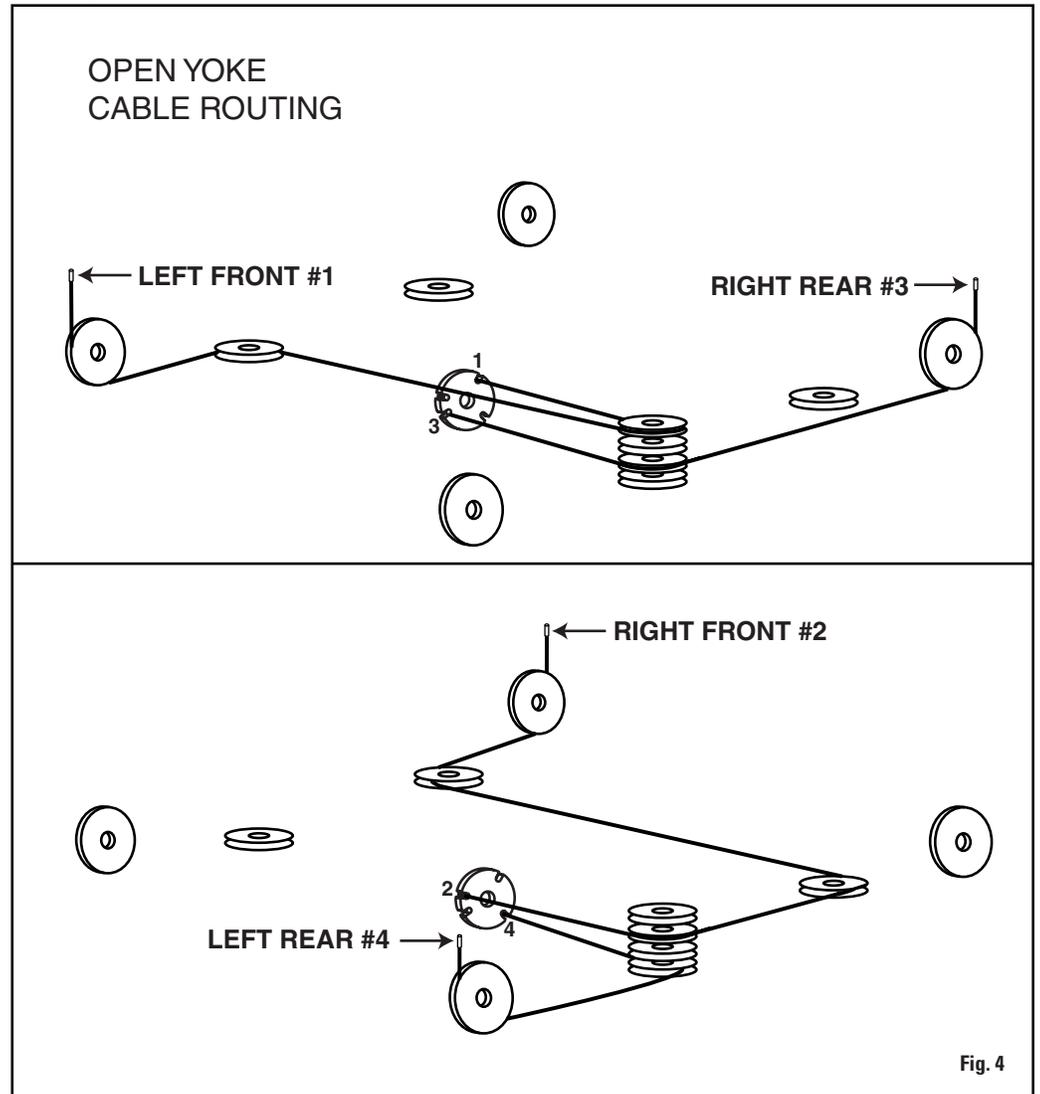
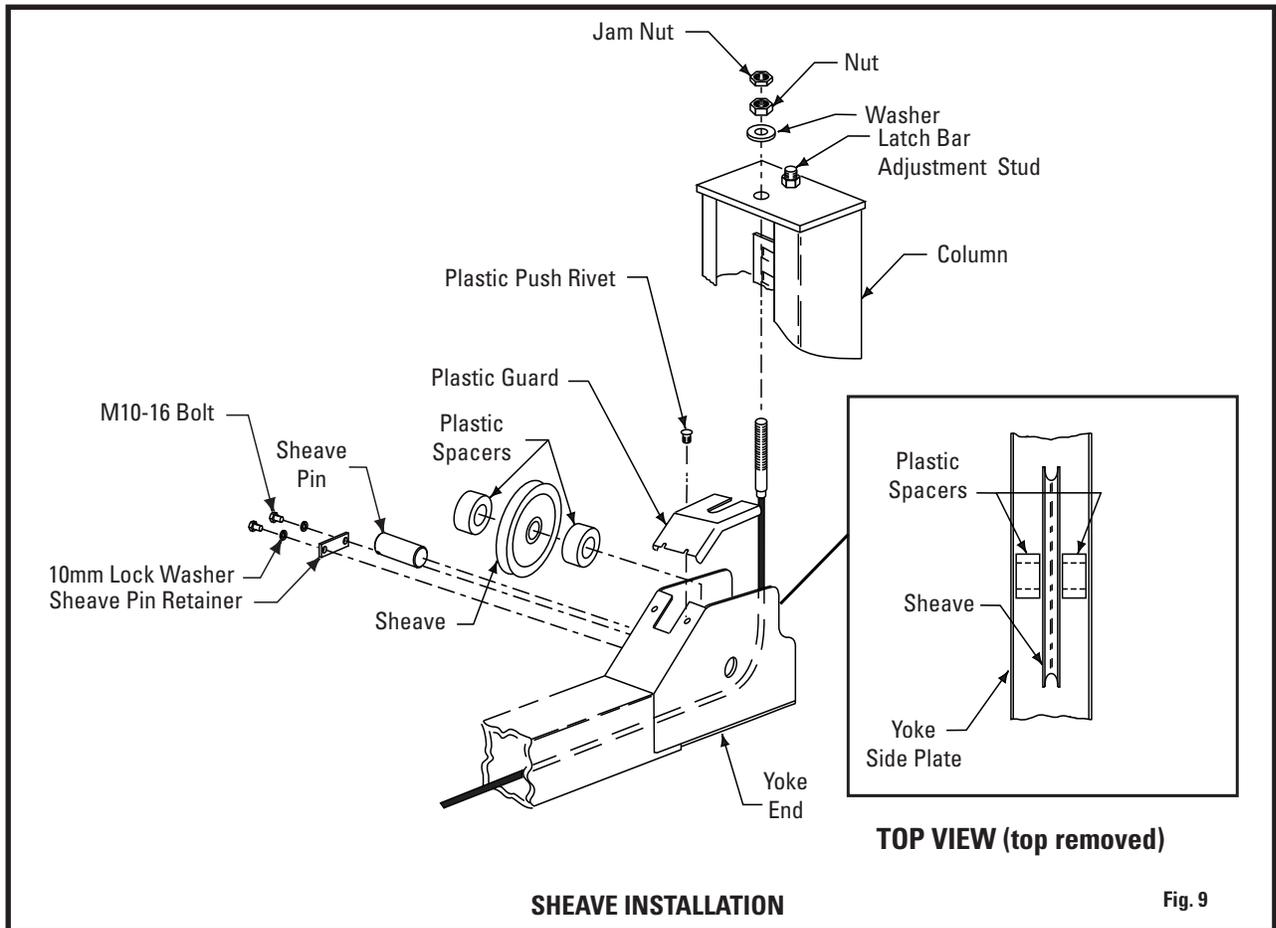
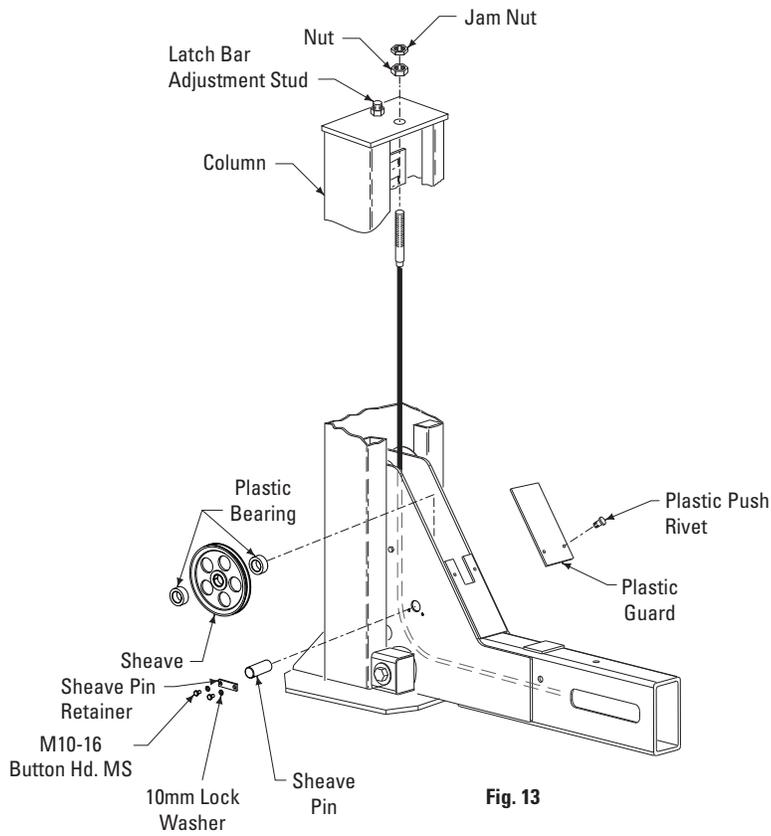

Fig. 4
Fig. 9
Fig. 13
- C. Install rear yoke end sheaves and plastic spacers, Fig. 9. A plastic spacer is placed on each side of the sheave, see inset, Fig. 9. Retain sheave pin with (2) M10-16 bolts and sheave pin retainer.
- F. **IMPORTANT** Be sure cable is isolated in the sheave groove. Attach each cable to column top plate with washer, nut, and jam nut, Fig. 9. Install plastic sheave guard on each yoke end. Roping diagram shows a view of completed roping, Fig. 4.
10. Front Sheave Install: Install yoke end sheaves and plastic bearings. A plastic bearing is placed between each side of the sheave and the sheave spacers, Fig. 13, also refer to inset in Fig. 9. Retain sheave pin with (2) M10-16 bolts and sheave pin retainer. Be sure cable is located in the sheave groove.
11. Cable Install: Attach each cable to column top plate with nut, jam nut, and washer, Fig. 13. Install plastic sheave guard on each yoke end.